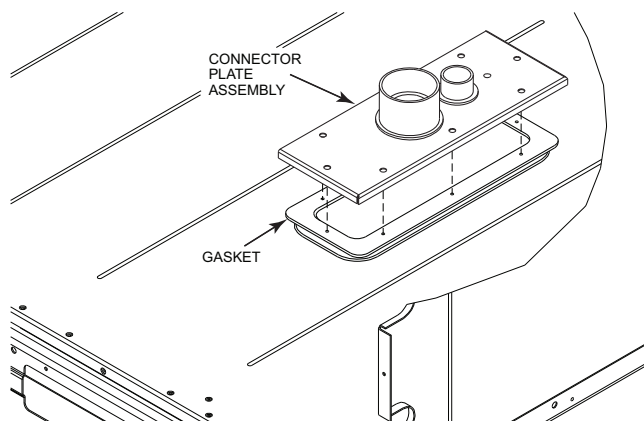

Fig. 56 — Completing Installation of Thru-the-Base Option
3. Place the gasket over the embossed area in the basepan, aligning the holes in the gasket to the holes in the basepan. See Fig. 56.